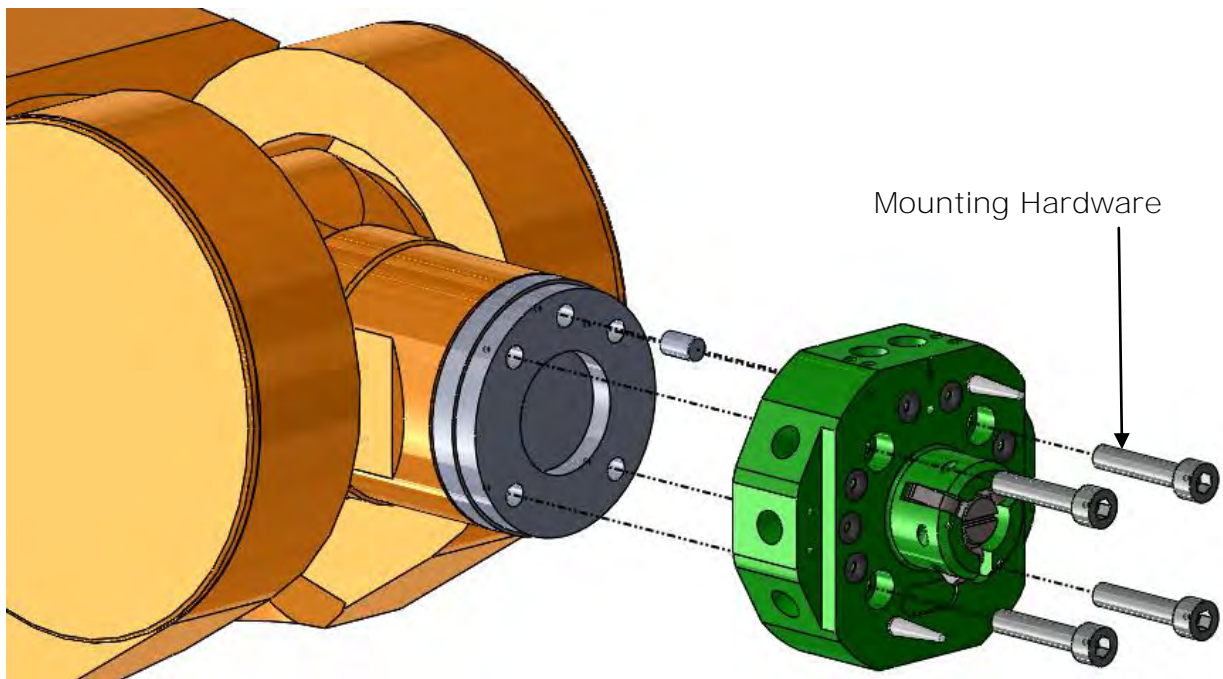

Figure 5.1-1. E50 Robot Adaptor Installation w/ M6 Hardware
1. Locate the Robot Adaptor to the manipulator mounting flange utilizing the locating boss and one (1) M6 locating dowel (Figure 5.1-1).